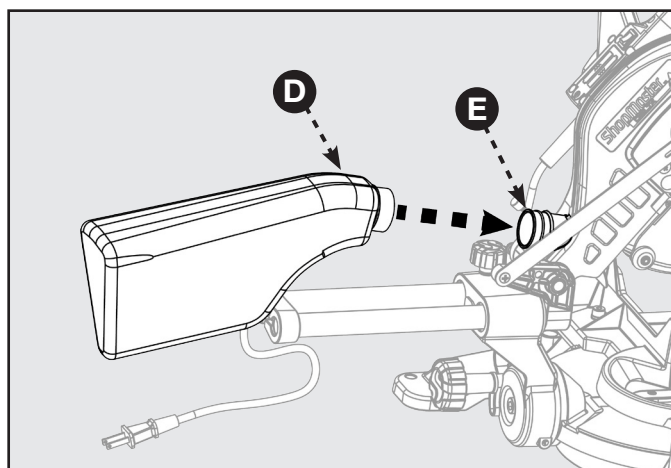

FIGURE 7
The tool includes a dust collection bag that attached over the exhaust port on the upper blade guard. To install, slide the plastic collar (D) of the dust bag onto the dust port (E). See Figure 7.